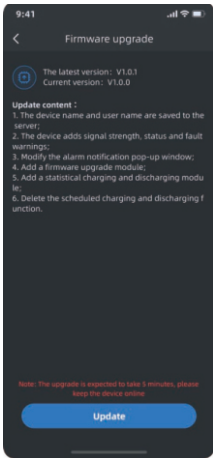

Figure 4
- 4)Figure 4: When a new firmware version is discovered, the update content will be displayed. Click "**Upgrade**" to start the upgrade process.